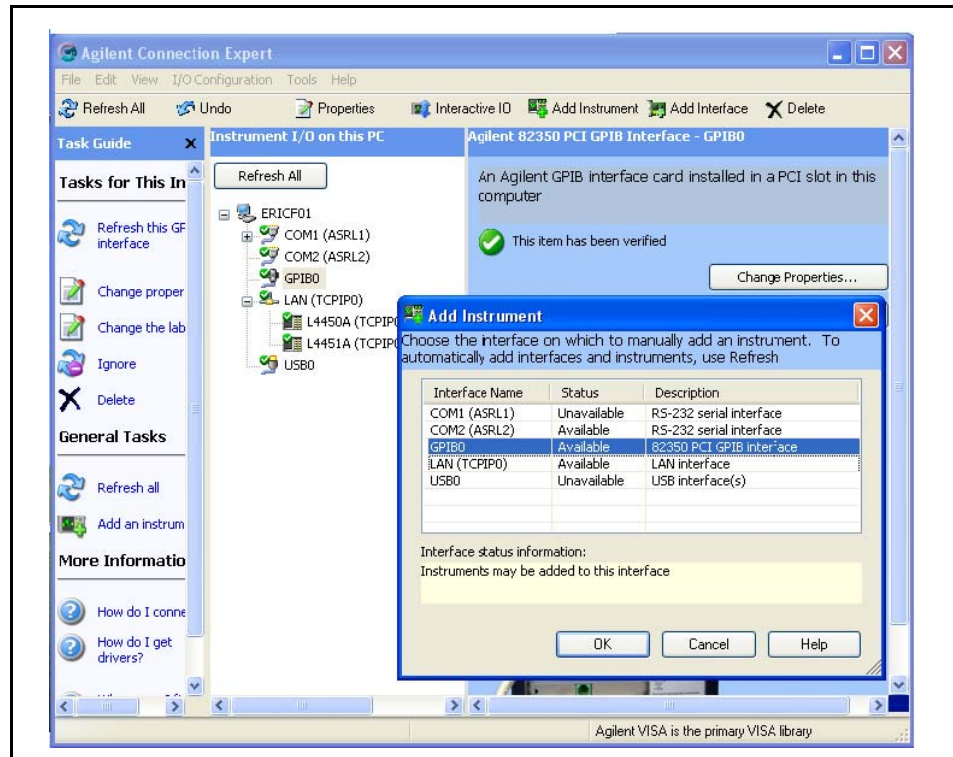

Figure 2-16. Adding Instruments to the GPIB Interface.
2. Open the Agilent Configuration Expert “Add Instrument” window and select the instrument’s GPIB address in the “configurable properties” window (Figures 2-16 and 2-17).